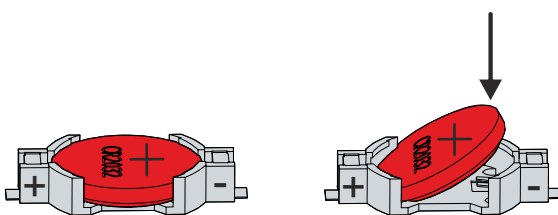

Fig. 17: Battery change
- ⇒ The battery is now in an oblique position (see fig. 17).
5. Push the high side of the battery down into the battery holder (see fig. 17).